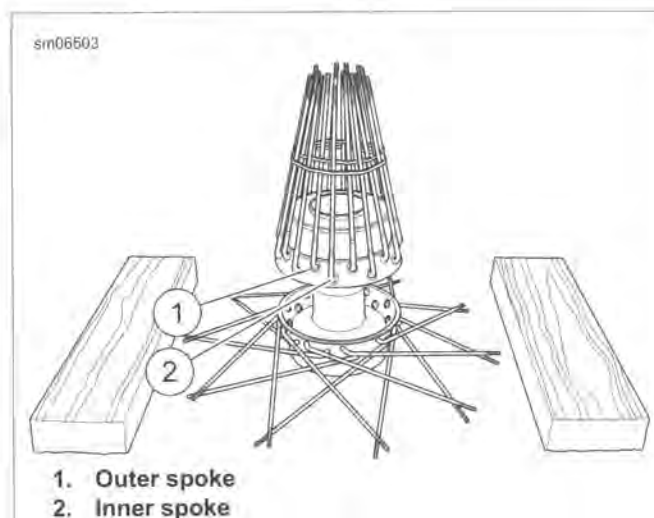

Figure 2-14. Spokes Gathered
3. See Figure 2-14. Flip hub over. Gather all outer spokes and hold upright with a rubber band. Repeat with the inner spokes using a second rubber band.